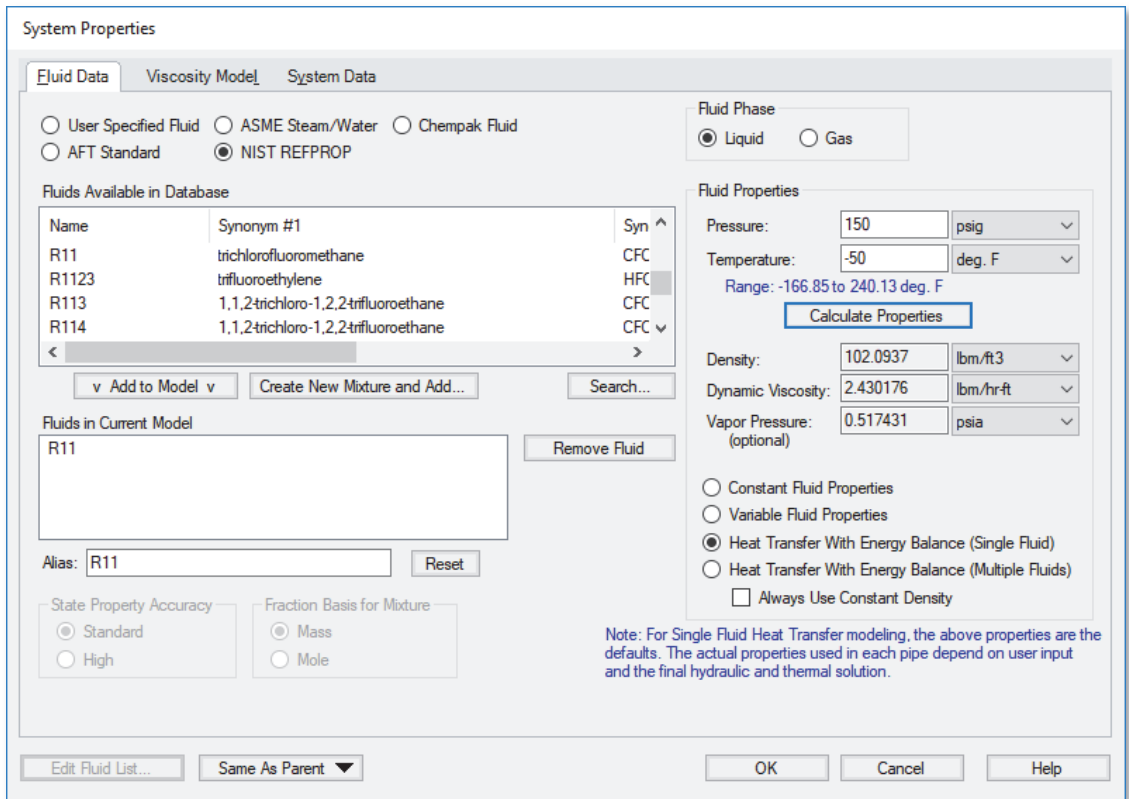

Figure 4.1 System Properties window with R11 selected and the “Heat Transfer with Energy Balance (Single Fluid)” selected.
1. Open the System Properties window by selecting System Properties in the Analysis menu (see Figure 4.1).